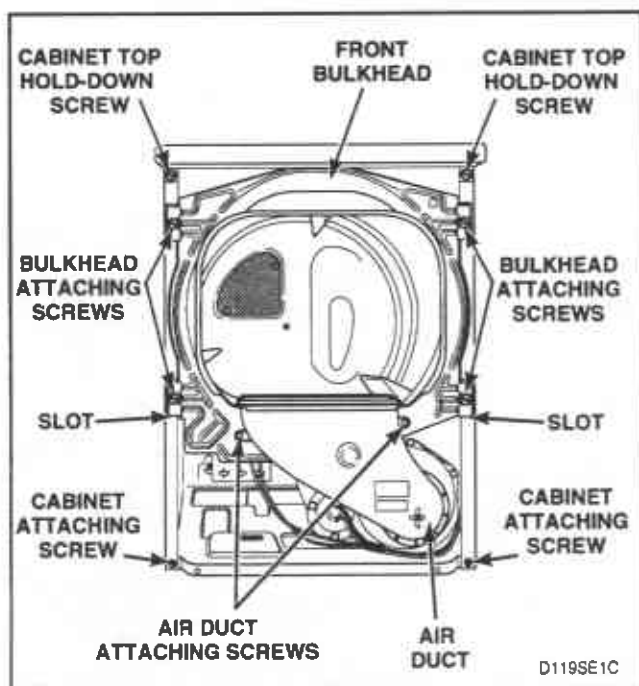

Figure 37
- Remove four screws holding bulkhead to front flange of cabinet and lift complete bulkhead assembly out of slots in cabinet, *Figure 37*.
- Remove two screws holding duct to front bulkhead and remove air duct, *Figure 37*
- Remove four screws holding bulkhead to front flange of cabinet. Then, lift complete bulkhead assembly out of slots in cabinet, *Figure 37*.
- Remove four screws holding bulkhead to front flange of cabinet. Then lift complete bulkhead assembly out of slots in cabinet, *Figure 37*.
- Loosen two cabinet top hold-down screws, *Figure 37*.